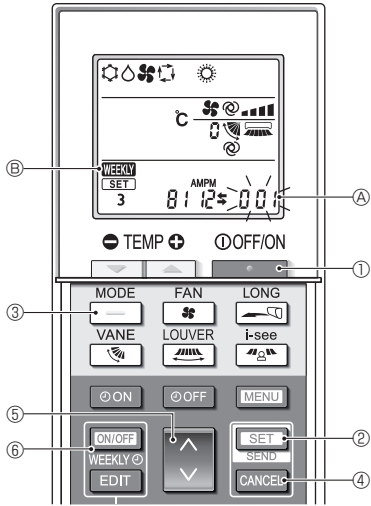

Fig. 6-7
- Press the **MENU** button ②.
6.9.8. How to disable Auto mode operation (Fig. 6-7)
- 1. Press the **STOP** button ① to stop the air conditioner.
- If the weekly timer is enabled, press the **ON/OFF WEEKLY** button ⑥ to disable the timer. (WEEKLY Ⓔ disappears.)
- 2. Press the **SET** button ② for 5 seconds.
- 3. Press the **DOWN** button ⑤.
- 4. Completing the settings (Fig. 6-7)
- Press the **SET** button ② for 5 seconds.